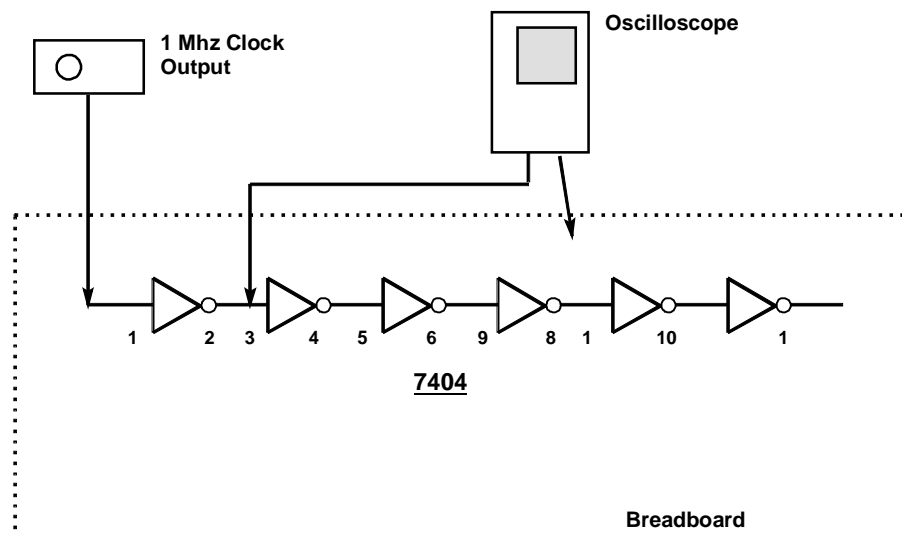

Figure 2.1
- F. With the digital clock output set at 1 MHz use the 7404 output pin 2 to drive the remaining five inverters connected in series as shown in Figure 2.1. Because there is an even number of inverters in this chain, a rising edge on the input of the first inverter will be a rising edge on the output of the 2nd inverter. The output waveform is DELAYED by the sum of the propagation delays through the 6 inverters (see Appendix I for a definition of propagation delay). Use the oscilloscope and the techniques learned in Lab #1 to measure the time difference between rising/falling edges on the input of the first inverter to rising/falling edges on the output of the last inverter. By measuring the propagation delay through the five gates with respect to positive and negative edges of the clock at pin 1, calculate the average 7404 t_{PHL} and t_{PLH} delay.